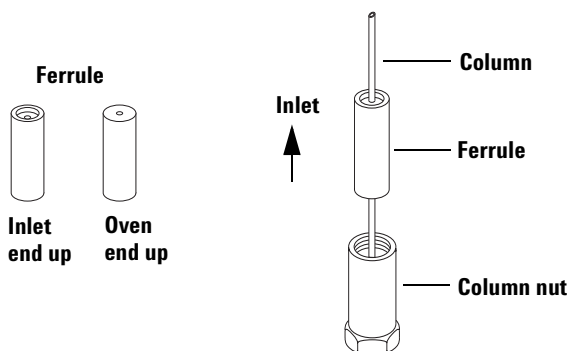

Figure 59 Placing the column nut and ferrule on the column
- 6** Slide a column nut and standard ferrule over the inlet end of the column. The inlet end of the ferrule should face up (toward the inlet). The bottom of the ferrule should be in front of the column nut. See Figure 59.